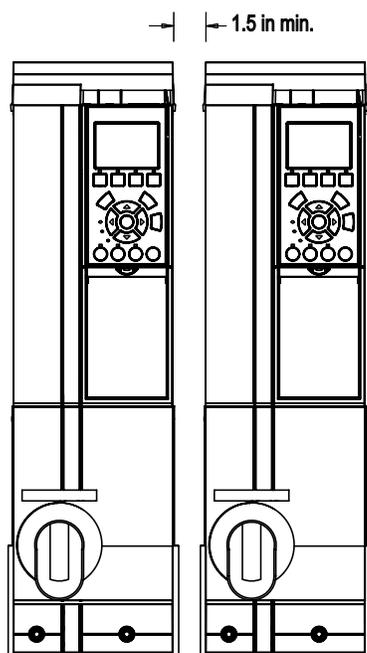

Figure 3-4. Side Cooling Clearance, A-2 and A-3 Frames
- Most option panels with drives may be mounted side-by-side without additional side clearance. A-2 and A-3 units require 1.5 in. clearance between units (see Figure 3-4).